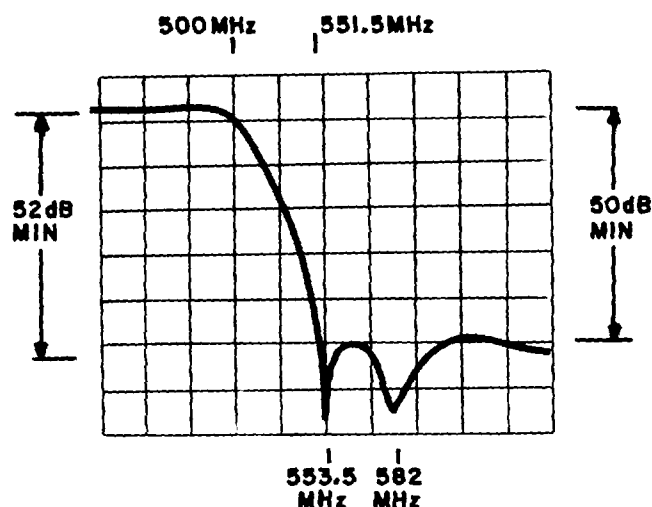

Figure 4-15. Type 370285, 500 MHz LP Filter, Typical Response
5. Readjust C2, C4, C6, and C8 for the best overall response as illustrated in Figure 4-15. Adjust for the best response, as follows: